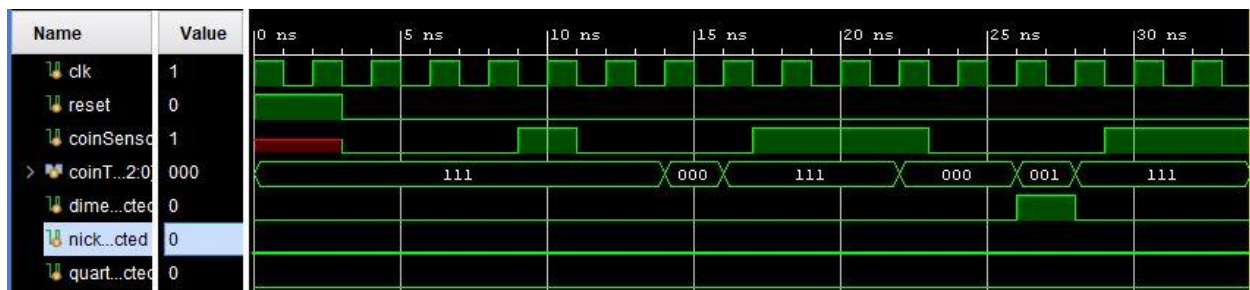
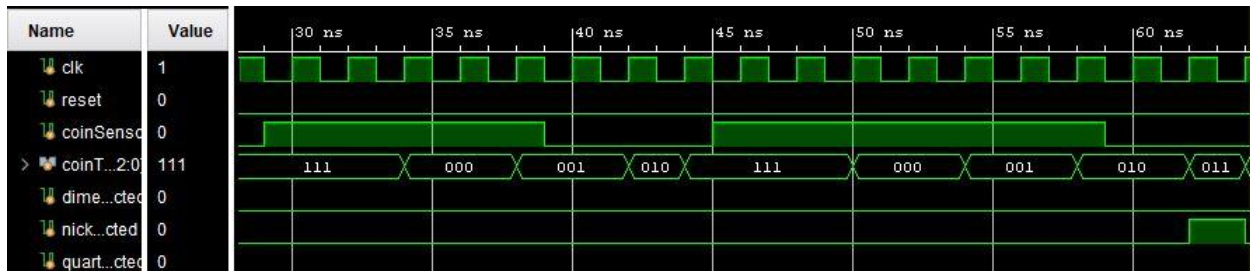
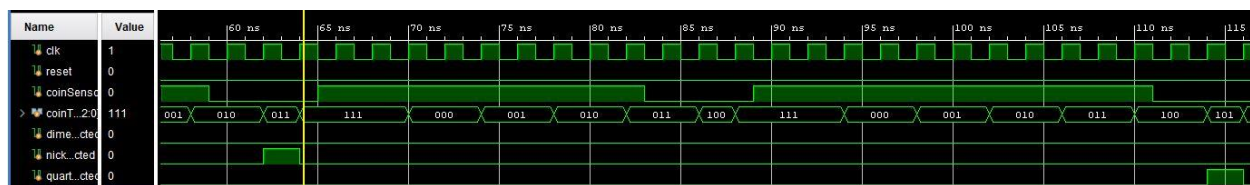

Figure 3: Waveform to Show dimeDetected Output
Figure 4: Waveform to Show nickelDetected Output
Figure 5: Waveform to Show quarterOutput
The waveform is correct and doesn't require any changes, but since the delay exists, the assert statements were off by 2 clock cycles and caused quite a headache. Once that was determined, I added a 2-cycle delay within the for loop of the code which fixed that issues. Figures 3 through Figures 6.
In Figure 3, the waveform shows the module being reset, a couple of cycles without an input sensor signal, then one clock cycle of the sensor being high. As mentioned before, the output is 2 cycles behind, so the state does not change until 2 cycles later from idle (111) to testDmin (000). The signal is then turned off, and the state returns to idle. Then the for-loop increments to the next state by keeping the sensor input high for 2*I clock cycles. This process is done for Figure 4 and Figure 5 to test if the other outputs match, which they do.